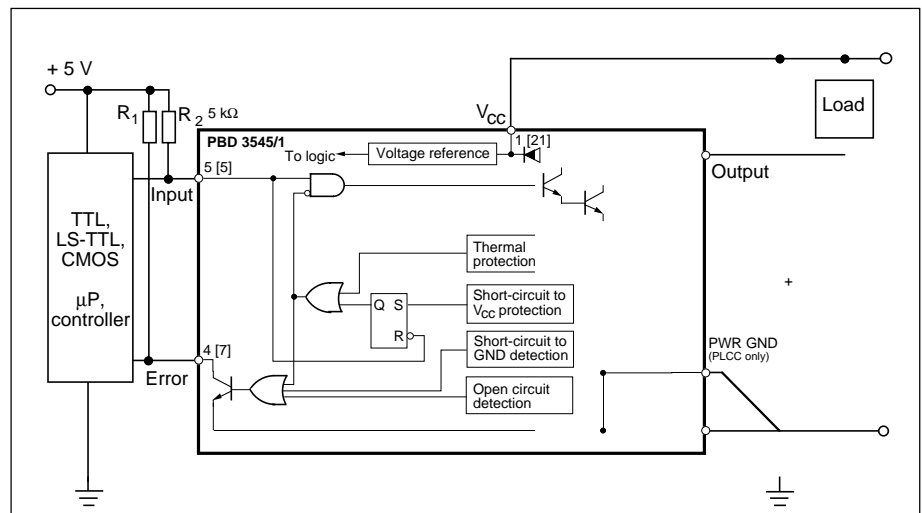

Figure 19. Typical application. Pin numbers refer to TO 220 package.
3. Connect Input and Error via pull-up resistors to the appropriate logic supply level or  $V_{CC}$  to obtain highest noise immunity. See figure 19. The resistor  $R_1$  limits the current into the Error indicating pin. This current must not exceed 8 mA.  $R_2$  is a pull-up resistor which improves noise immunity at the Input. Pull-up current should not exceed the sinking capacity of the controlling device output.